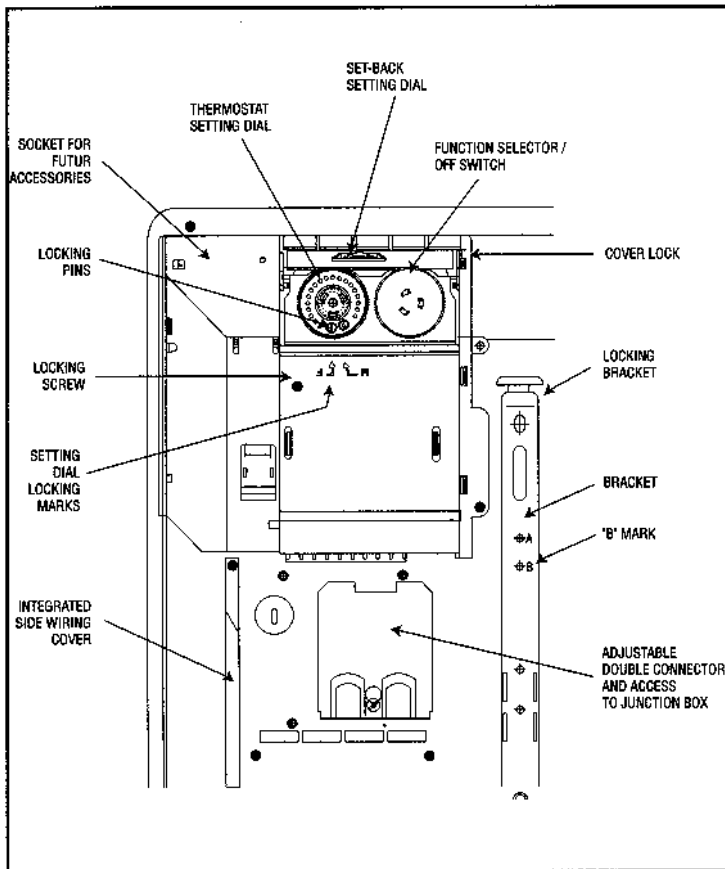

Figure 2
- 1- Free mounting bracket by pressing and pulling both locking brackets (Figure 2).
Access to the junction box is reached by an access trap situated at the rear of the CONVECTAIR (Figure 2).
First, detach the unit from the wall bracket. Behind the setting dial, two pins are provided. Remove the pins with pliers by rotating gently. To lock the setting dial, insert a pin in front of the "F" mark. To block the setting between the minimum and a desired maximum setting, insert a pin in front of the "M" mark (Figure 2).